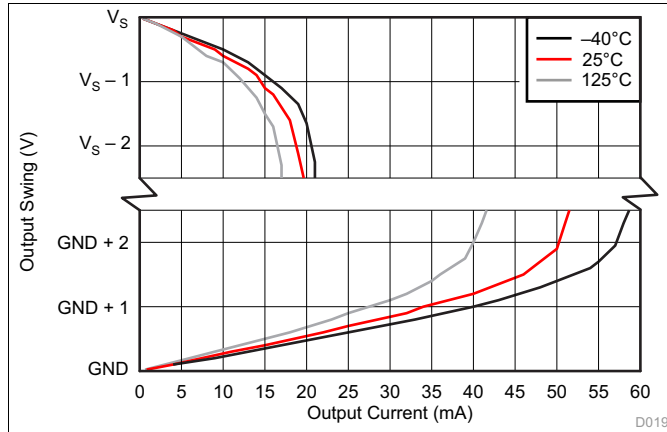

图 19. Output Voltage Swing vs Output Current
(1) RTI = referred-to-input.
(2) Offset voltage is obtained by linear extrapolation to  $V_{SENSE} = 0\text{ V}$  with  $V_{SENSE} = 10\%$  to  $90\%$  of full-scale-range.
(3) See Figure 19.
(4) Swing specifications are tested with an overdriven input condition.